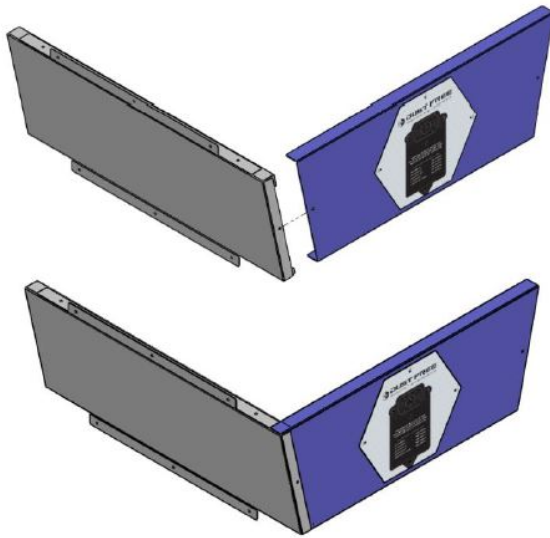

Figure 3: Side and rear panel alignment and assembly.
3. Align and insert one side panel into the rear panel inside the flange as depicted in Figure 3.
2. Place the rear panel on a firm surface. Align and insert one side panel into the rear panel, inside the flange as depicted in Figure 3.